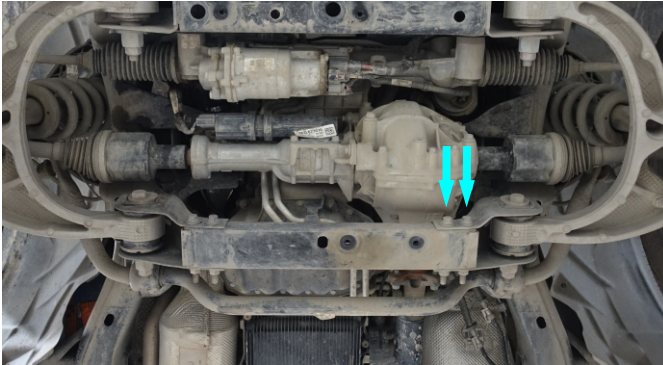

Fig. 1
1. Remove two factory bolts from the frame on the left side of the vehicle (fig.1).